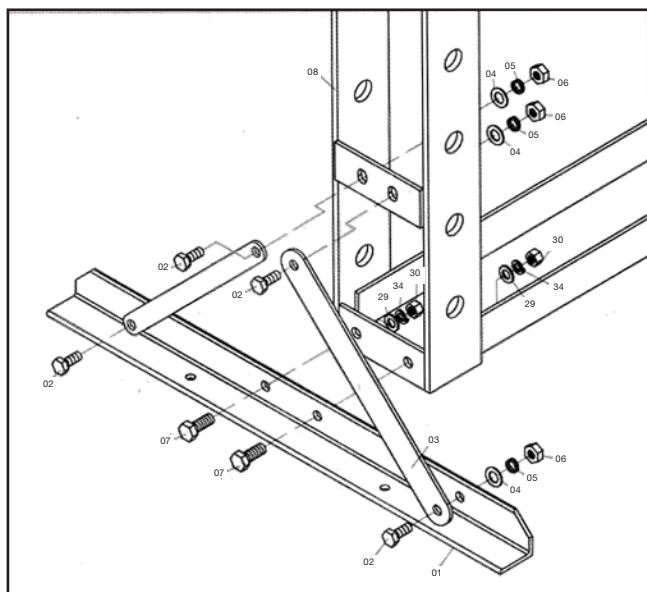

Figure 1
- The bed frame (25) is at the bottom for convenient packaging and transport, then fixed on the post by two bolts M12.
- **Attach the foot section (01) and support (03) to left and right connecting plate using bolt (02), washer (04), lock washer (05) and nut (06).** (figure 1)